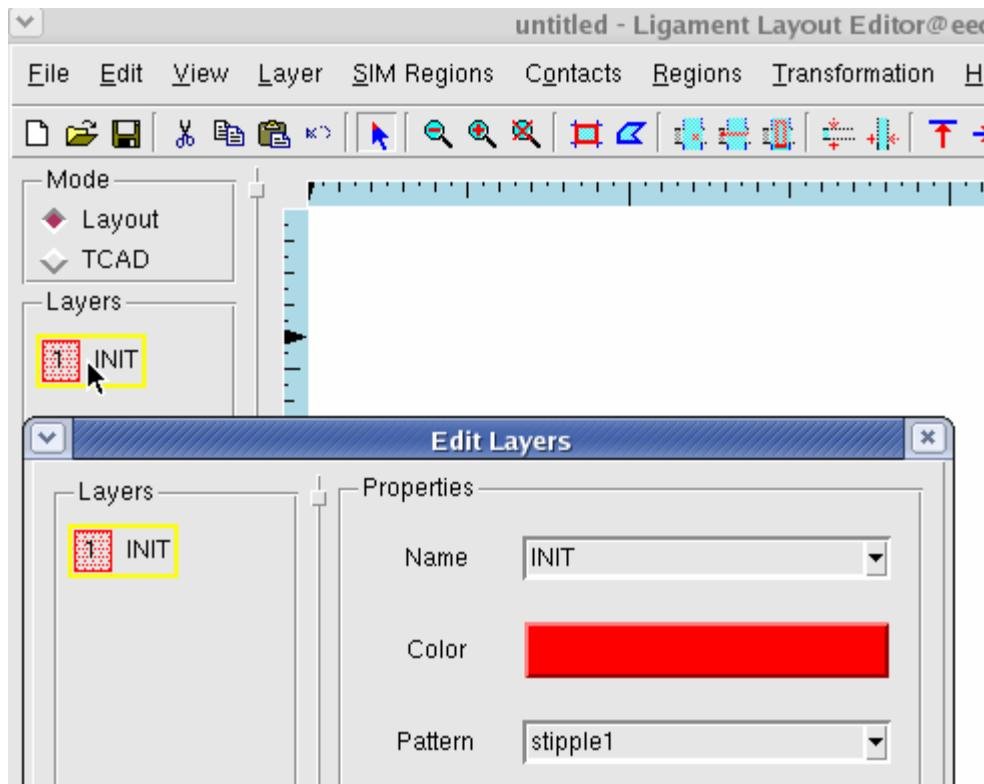

Figure 10: Editing Layers.
- a. Double click on the layer INIT on the left hand side or the editor, a pop-up should appear (Figure 10).